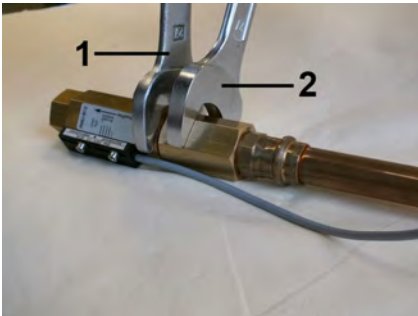

Fig. 14: Screw in the device (inlet)
3. ➤ Keep turning in the adapter union (Fig. 14/2) while holding the device body locked (Fig. 14/1) until the connection is tight.